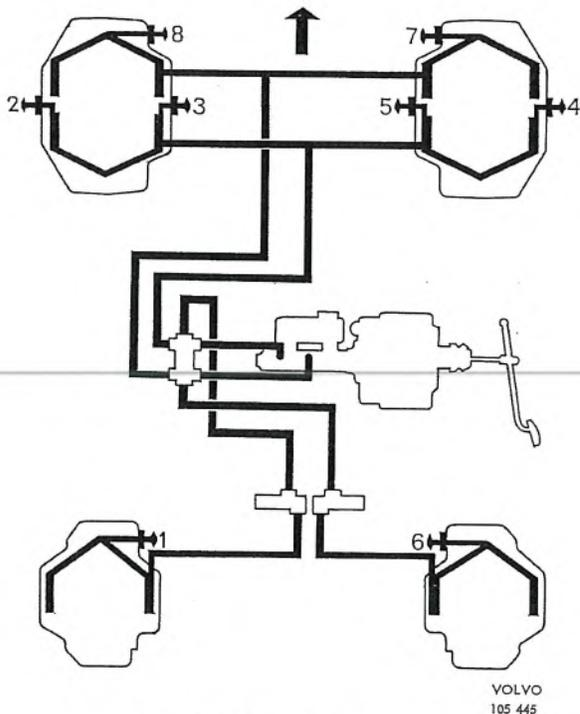

Fig. 5-64. Bleeding diagram
5. Bleeding should take place in the order shown in fig. 5-64. Note that the bleeder nipple should be